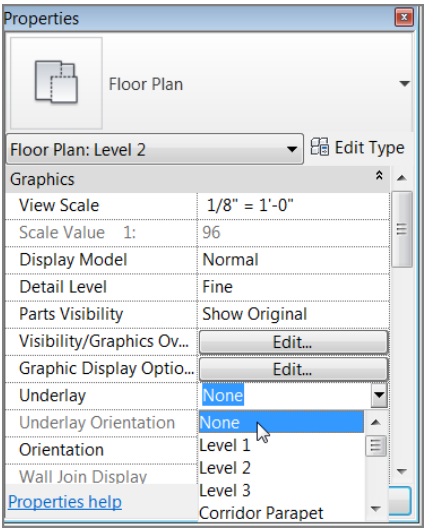

FIGURE 4.54: Switch Underlay from Level 1 to None.
5. In the Properties dialog box, set Underlay to None, as shown in Figure 4.54. (Underlay is simply the floor below. You can set your underlay to any floor you'd like.)